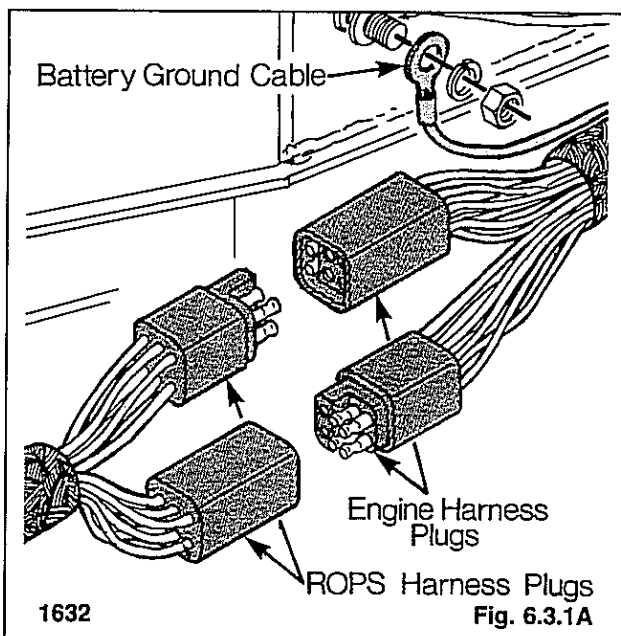

Fig. 6.3.1A
3. Disconnect the engine wiring harness from the ROPS wiring harness at the plug connections inside the engine compartment (Fig. 6.3.1A).
4. Disconnect the battery ground cable from the loader main frame (Fig. 6.3.1A). Remove the ground cable from the loader.